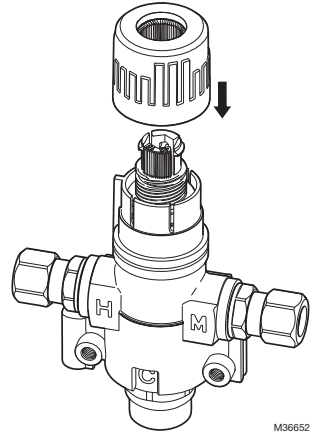

Fig. 6. Lock the setting.
4. Replace the cap after adjustment to lock the setting. See Fig. 6.